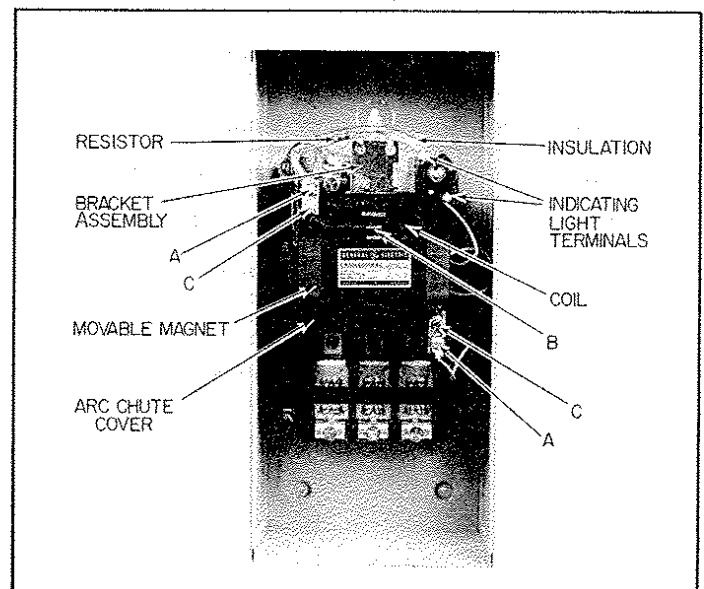

Figure 2. CR305X350B installed
1. Loosen coil retainer screws "C", Figure 2. Press against coil and pull up and out on coil retainers "A", Figure 2.
- B. For 230V, 460V, and 575V circuits, run resistor, indicated in Table A, through insulation tube and install in same manner as resistor shown in Figure 2. Secure red wire or resistors in position by running it through pin.